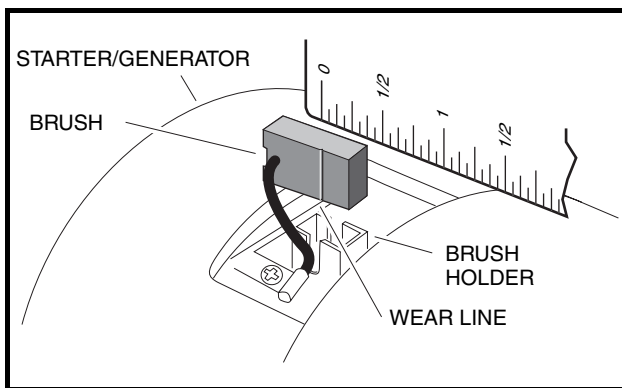

Figure 12-4 Inspect Brushes
2. Check the wear line on the side of the brush. If the end of the brush is within 1/16-inch (1.6 mm) of the wear line, replace all four brushes (Figure 12-4, Page 12-3).